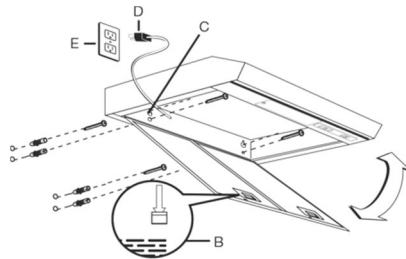

Figure 2
5. in the 2 self-tapping screws without allowing the heads to reach the wall (Fig. 2).
9. Connect the hood's plug "D" to the wall socket "E" (Fig. 2).